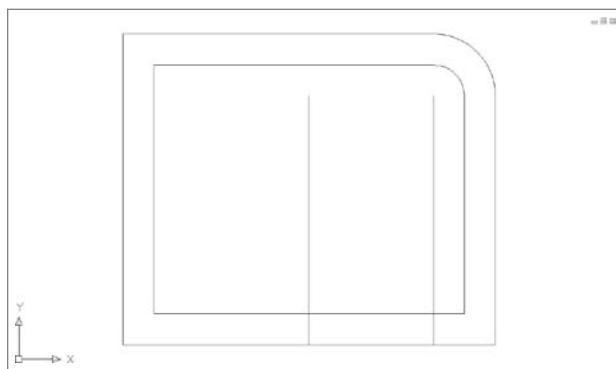

FIGURE 2.32 The lines are extended to the boundary edge.
5. Press ↵ to end the EXTEND command (see Figure 2.32).